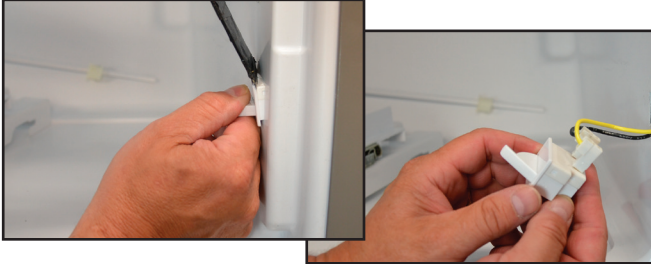

FIGURE 34
1. To remove the door switch from the cabinet wall, protect the liner while using a putty knife to pry it out. Disconnect harness connectors. See *Figure 34*.